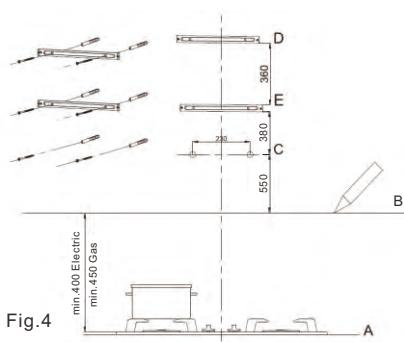

Fig.4
Wall mounting (Fig.4 & 5)
- From bench top (Fig.4), draw a horizontal line above minimum installation height level (Fig.4).